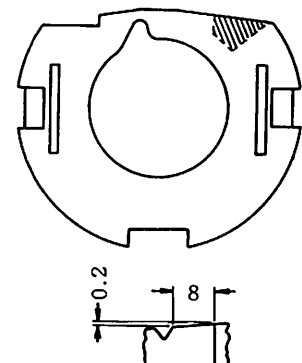

Fig. 26
A. If the needle hits the shuttle, the blade point A will be worn to a knife edge. Carefully polish it with an oilstone and abrasives and keep it slightly away from the needle point. However, do not push it back too far from the needle to prevent stitch-skipping. Also, take care not to provide too much clearance between the front face of the shuttle driver and the needle when the needle bar has reached its lowest position, in order to prevent the needle from bending. In such a case, adjust the shuttle driver position in the axial direction, so that it protects the needle. When the blade point of the shuttle has been seriously damaged, also check to see if the shadowed area (Fig. 26) on the rear face of the shuttle race is of the correct shape as illustrated. If not, correct the shape with an oilstone.